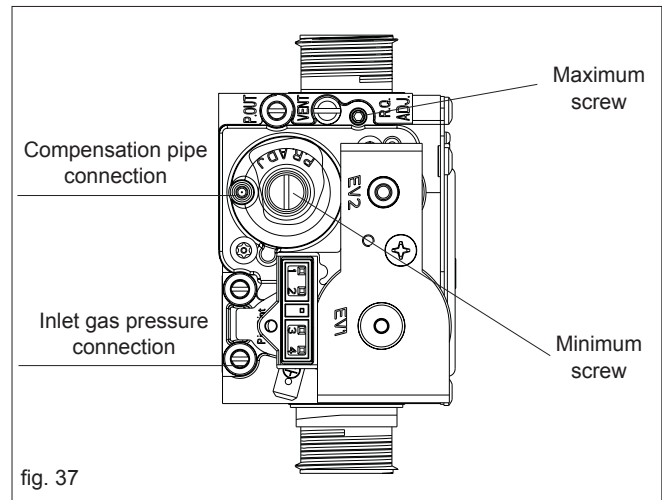

fig. 37
- using a 2.5mm Allen key, very slowly turn the maximum adjustment screw (see fig. 37) – clockwise to decrease, counter clockwise to increase – until the correct value is displayed on the CO2 analyser (allow time for the analyser to stabilise).
- locate the minimum adjustment screw (fig. 37), using a suitable screwdriver remove the protection plug
- using a 4mm Allen key, very slowly turn the minimum adjustment screw (see fig. 37) - clockwise to increase, counter clockwise to decrease - until the correct value is displayed on the CO2 analyser (allow time for the analyser to stabilise).